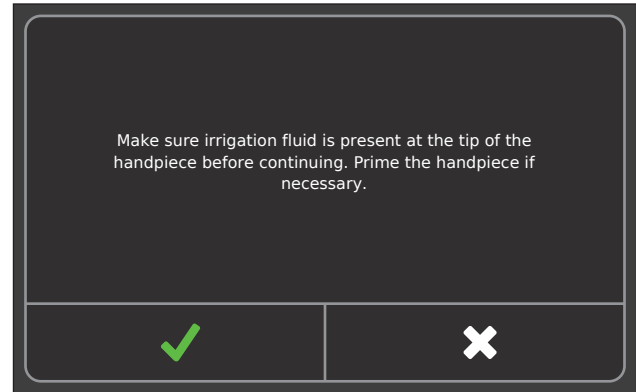

Figure 95 – Quick Start Confirmation Pop-up
- If power is inadvertently lost or interrupted and then applied after a successful installation of all the system components (handpiece, tip and sleeve set, irrigation suction cassette, and foot pedal), a quick start confirmation pop-up will appear (Figure 95).